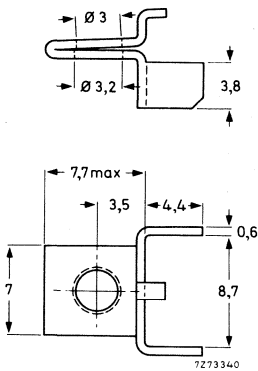

Fig. 2a. Metal mounting bracket
- metal bracket for rail or panel mounting, catalogue number 4332 026 00750, Fig. 2a;